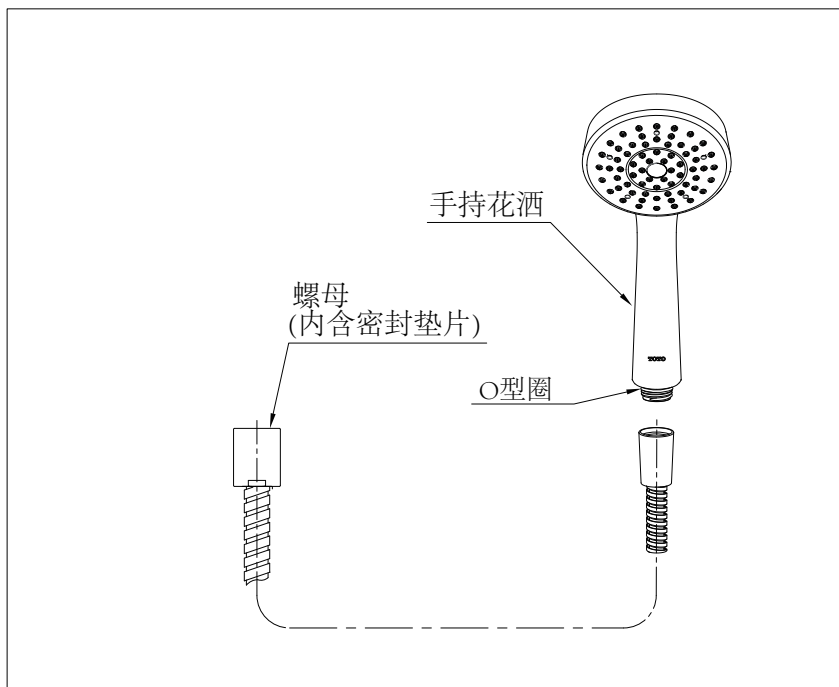

图9: 淋浴软管的安装
- (1)确认螺母内有无密封垫片;
- (2)确认手持花洒有无O型圈;
- (3)将软管与水嘴部螺纹相连接,如图9所示: